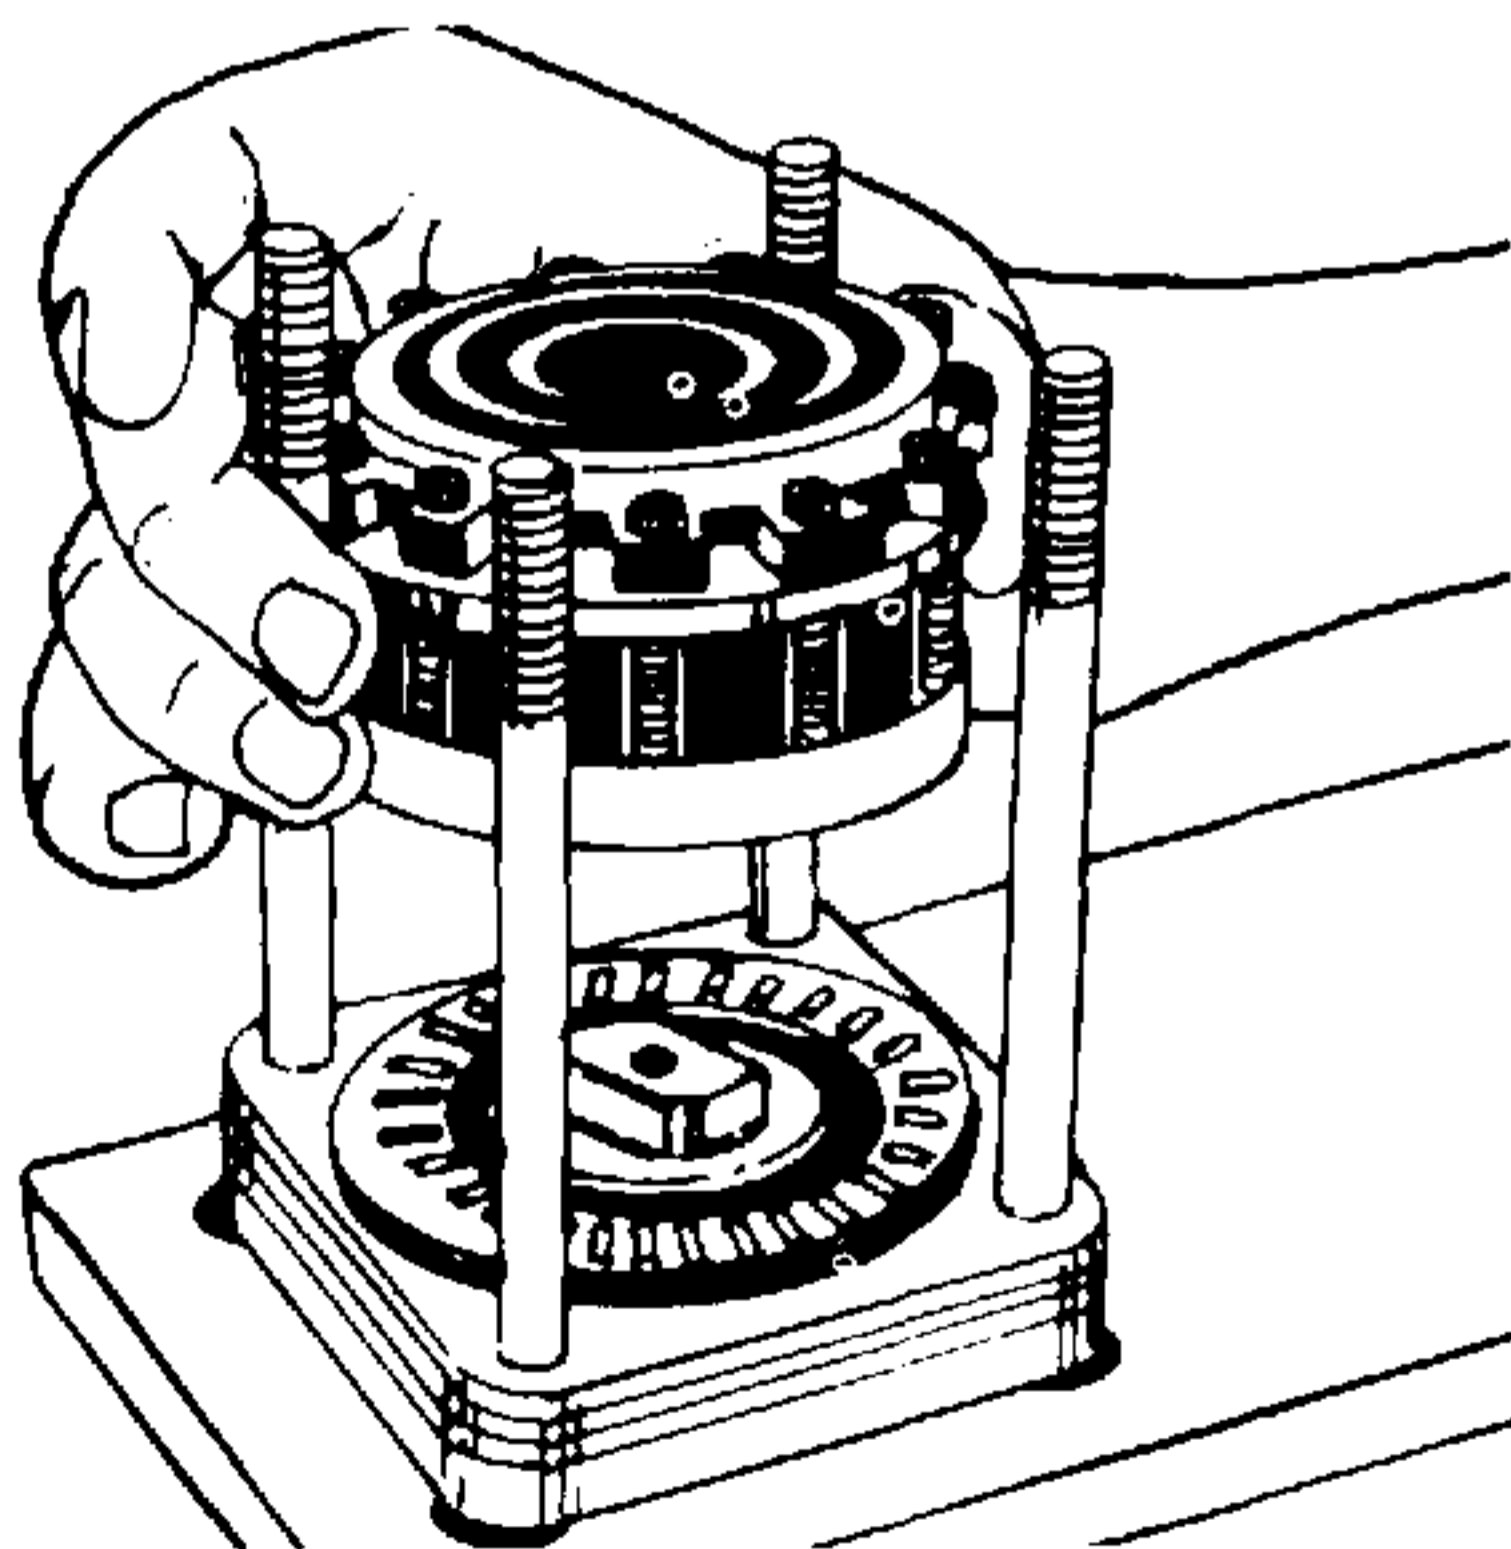

Figure 4-22. Removing Metering Package.
24. The metering package components are held together with eleven hex socket head screws. Lift the metering package from the assembly, and place it on a clean surface. See Figure 4-22.